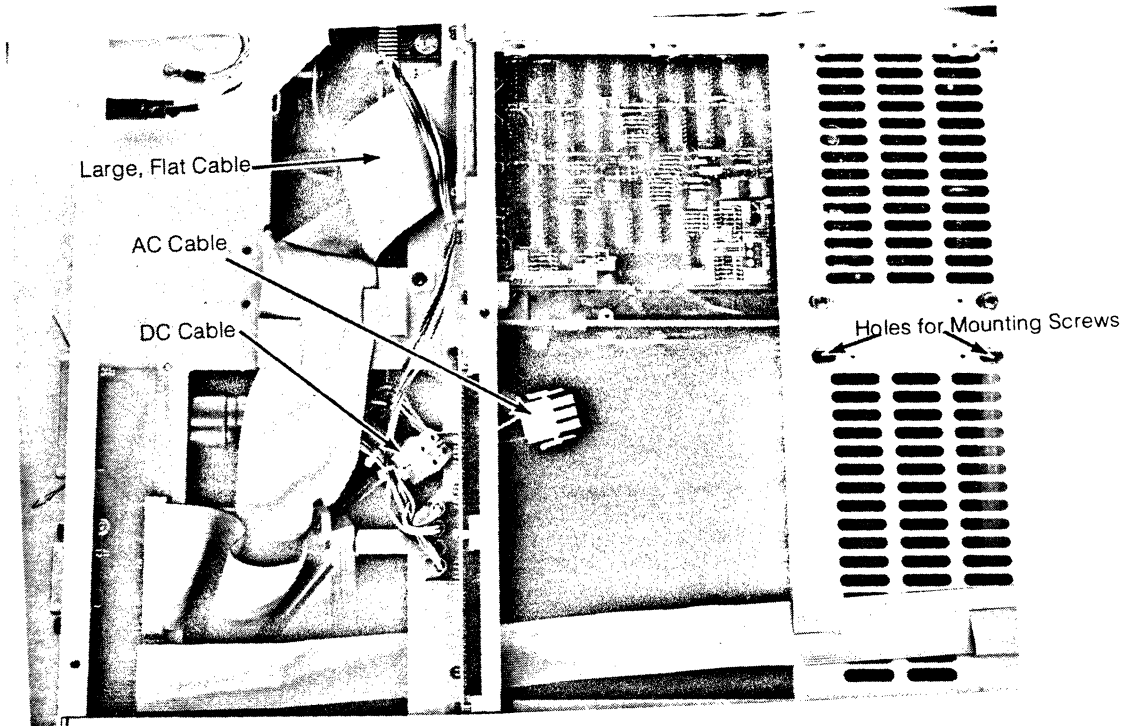

Figure C-5. Bottom View of Drive Location
10. For Option 11 units (without controller), go to step 13. Remove the HP-IB connector retainer under the right drive position (see Figure C-5).
14. Identify the connector end of the following cables (look at the left drive and Figures C-5 and C-6 to clarify the following cable locations):
15. Slide drive into unit from the front. While drive is still protruding about 1 inch, attach the flat cable connector at J3 (see Figure C-5).
18. Install the two furnished half-inch screws, with washers, in the bottom (see Figure C-5).
24. Install the retainer for the HP-IB connector just attached, as shown in Figure C-5.